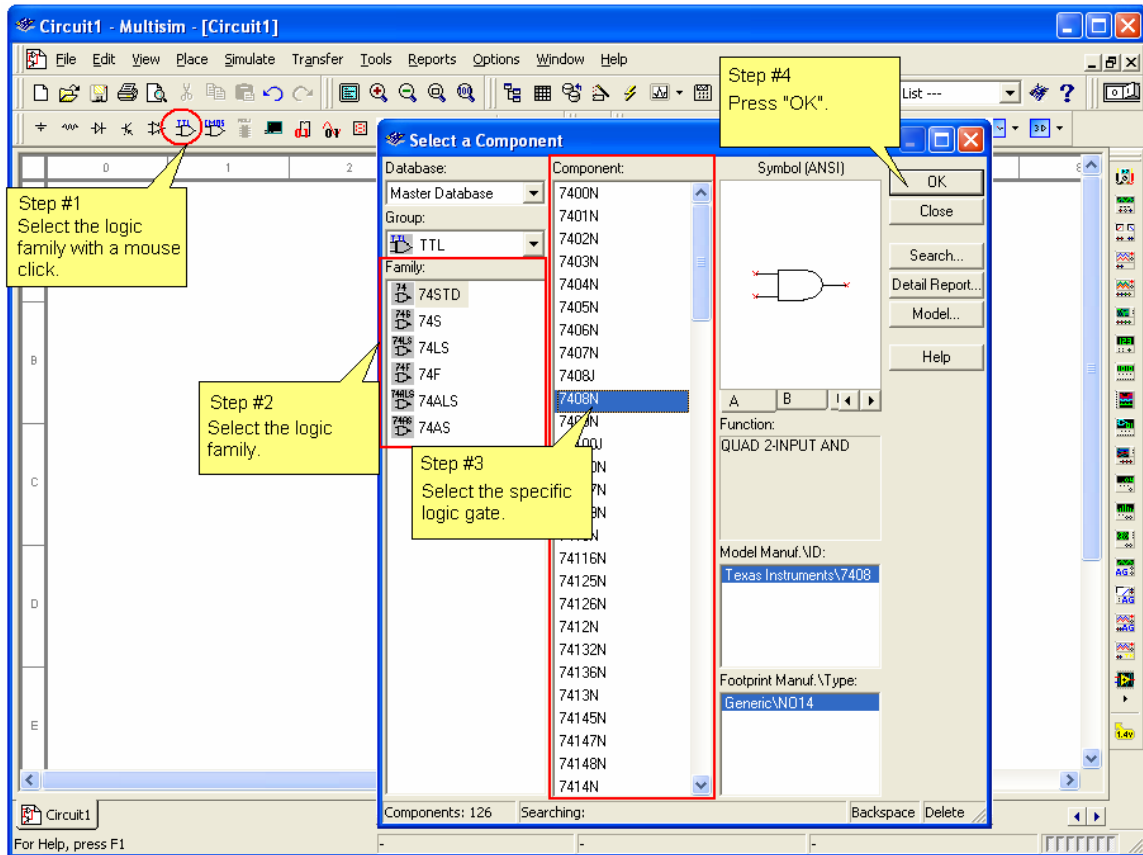
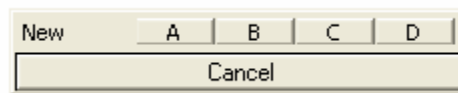

Figure 15 Selecting an IC for simulation
Figure 16 Selection of individual logic gate
The logic families are represented for both TTL and CMOS integrated circuits (IC). The logic gates are shown as a single gate, not the entire IC. If an IC contains more that one logic gate, the schematic symbol for the gate will contain a letter designation. For example, the 7408N is a quad 2-input AND gate. The logic gates located inside the 7408N are designated A, B, C, and D. The process for selecting a logic gate is shown in Figure 15. The user selects either the TTL or CMOS family of integrated circuits. Then the IC family is selected and finally the specific IC.
Once the IC is selected, MultiSim will prompt the user as to which logic gate inside the IC is to be used. In Figure 15 the 7408N was selected. The 7408N is a quad 2-input AND gate. Therefore the user will have to choose from gates A through D as shown in Figure 16.